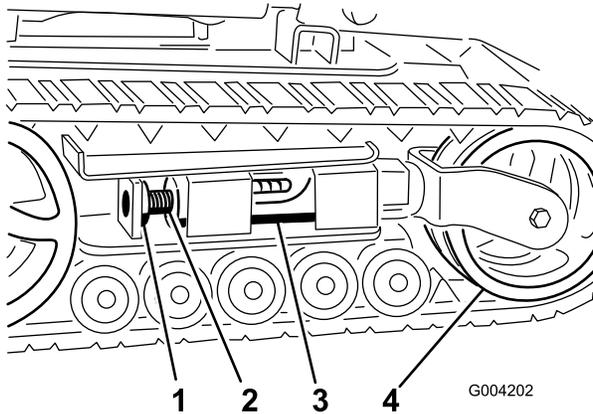
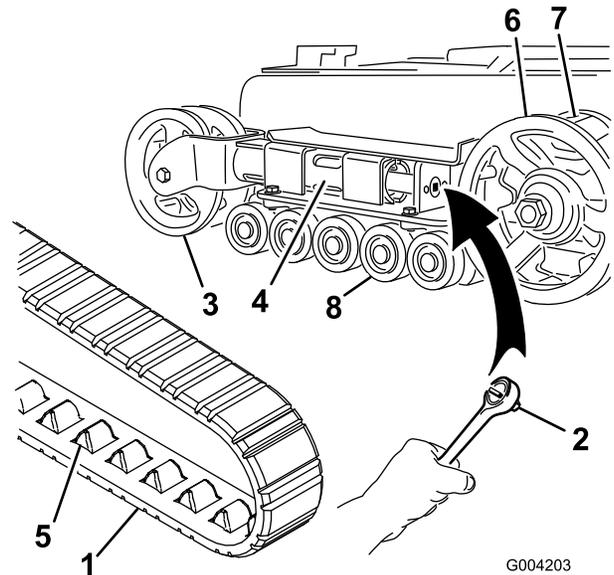
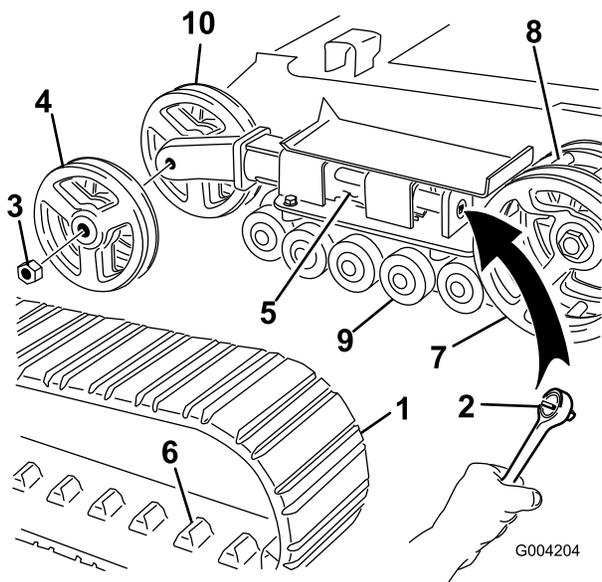

Figure 45
Figure 46
Figure 47
3. Remove the locking bolt and nut (Figure 45).
5. Align the closest notch in the tension screw to the locking bolt hole and secure the screw with the locking bolt and nut (Figure 45).
4. Using a drive socket wrench (1/2 inch), release the drive tension by turning the tensioning screw clockwise (Figure 45 and Figure 46).
5. Push the tension wheel toward the rear of the unit to move the tension tube against the frame (Figure 46). (If it does not touch the frame, continue turning the tensioning screw until it does.)
7. When the track is off the tension wheel, remove it from the drive sprocket and road wheels (Figure 46).
8. Beginning at the drive sprocket, coil the new track around the sprocket, ensuring that the lugs on the track fit between the cogs on the sprocket (Figure 46).
9. Push the track under and between the road wheels (Figure 46).
4. Using a drive socket wrench (1/2 inch), release the drive tension by turning the tensioning screw clockwise (Figure 45 and Figure 47).
5. Push the tension wheel toward the rear of the unit to move the tension tube against the frame (Figure 47). (If it does not touch the frame, continue turning the tensioning screw until it does.)
6. Remove the nut securing the outer tension wheel and remove the wheel (Figure 47).
7. Remove the track (Figure 47).
8. Remove the nut securing the inner tension wheel and remove the wheel (Figure 47).
12. Install the inner tension wheel and secure it with the nut removed previously (Figure 47).
14. Install the new track, ensuring that the lugs in the track fit between the cogs in the middle of the drive sprocket (Figure 47).
15. Install the outer tension wheel and secure it with the nut removed previously (Figure 47).
- Place the greased road wheel cap over the bolt head (Figure 46).
- Secure the road wheel cap with the snap ring (Figure 46).